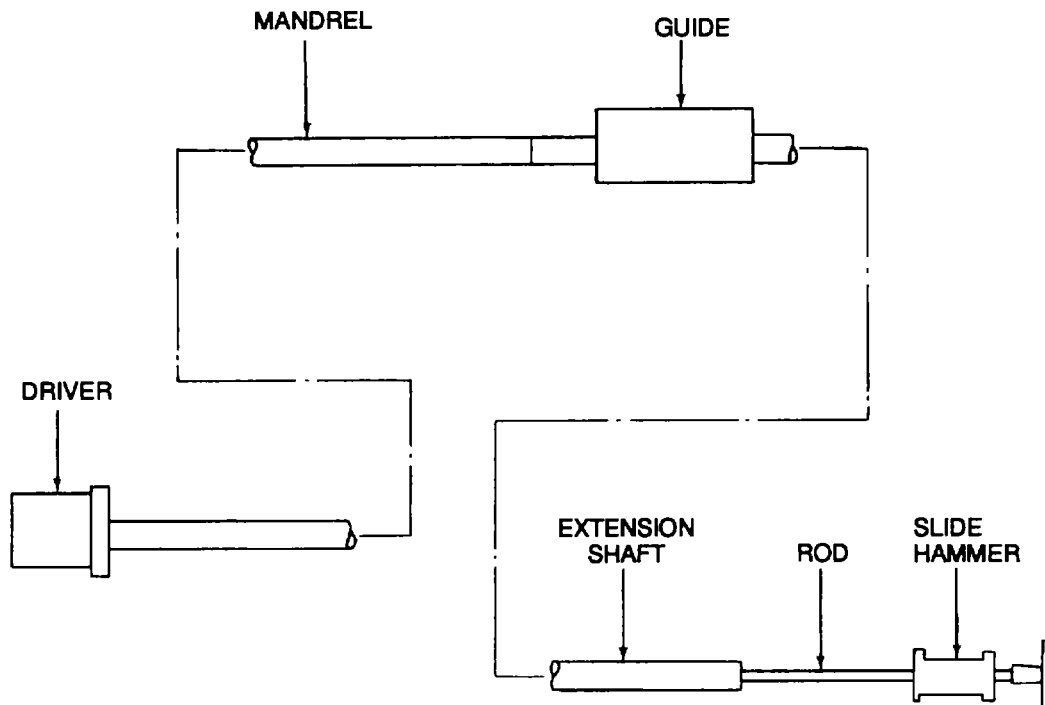

Figure 9-18. Camshaft Bushing Driver Set, ST-1 228
- (1) Assemble the camshaft bushing driver set ST-1228 (Figure 9-18) using the slide hammer, rod, mandrel, extension shaft, guide, and driver as follows:
- (d) Install the rod (Figure 9-18) and slide hammer in the extension shaft.
- (3) Remove the driver (Figure 9-18) from the mandrel, reposition the driver and mandrel behind the next bushing, and drive out the bushing as in step (2), above.
- (4) Repeat step (3), above, until the bushings have been removed from the front half of the engine.
- (5) Reverse the driver set so that the guide is in the front bushing bore and the driver is positioned in the rear bushing, and remove the bushings from the rear half of the engine in accordance with steps (2) and (3), above.
- (6) If any bushing drove out easily, or shows signs of rotation in the bore, measure the bore diameter. If the bore diameter is over 3.1895 inch (81.013 mm), sleeve the bore in accordance with paragraph 9-31.